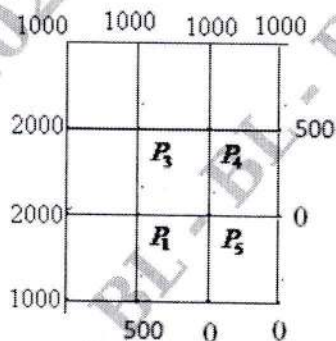

Fig. Q8 (b)
- b. Solve the two-dimensional Laplace equation $\frac{\partial^2 u}{\partial x^2} + \frac{\partial^2 u}{\partial y^2} = 0$ at the interior mesh points of the square region and the values of u at the mesh points on the boundary are shown in Fig.Q8 (b).